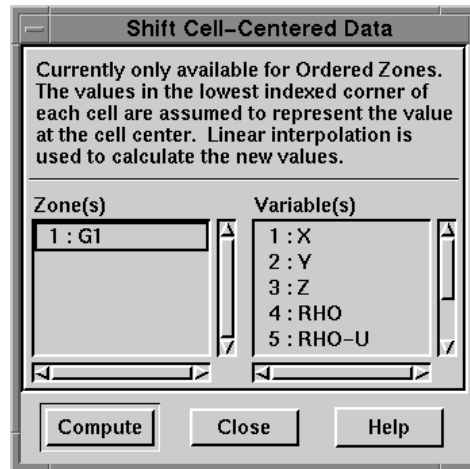

Figure 25-6. The Shift Cell-Centered Data dialog.
2. From the Data menu, choose Alter, then choose Shift Cell-Centered Data. The Shift Cell-Centered Data dialog appears as shown in Figure 25-6.